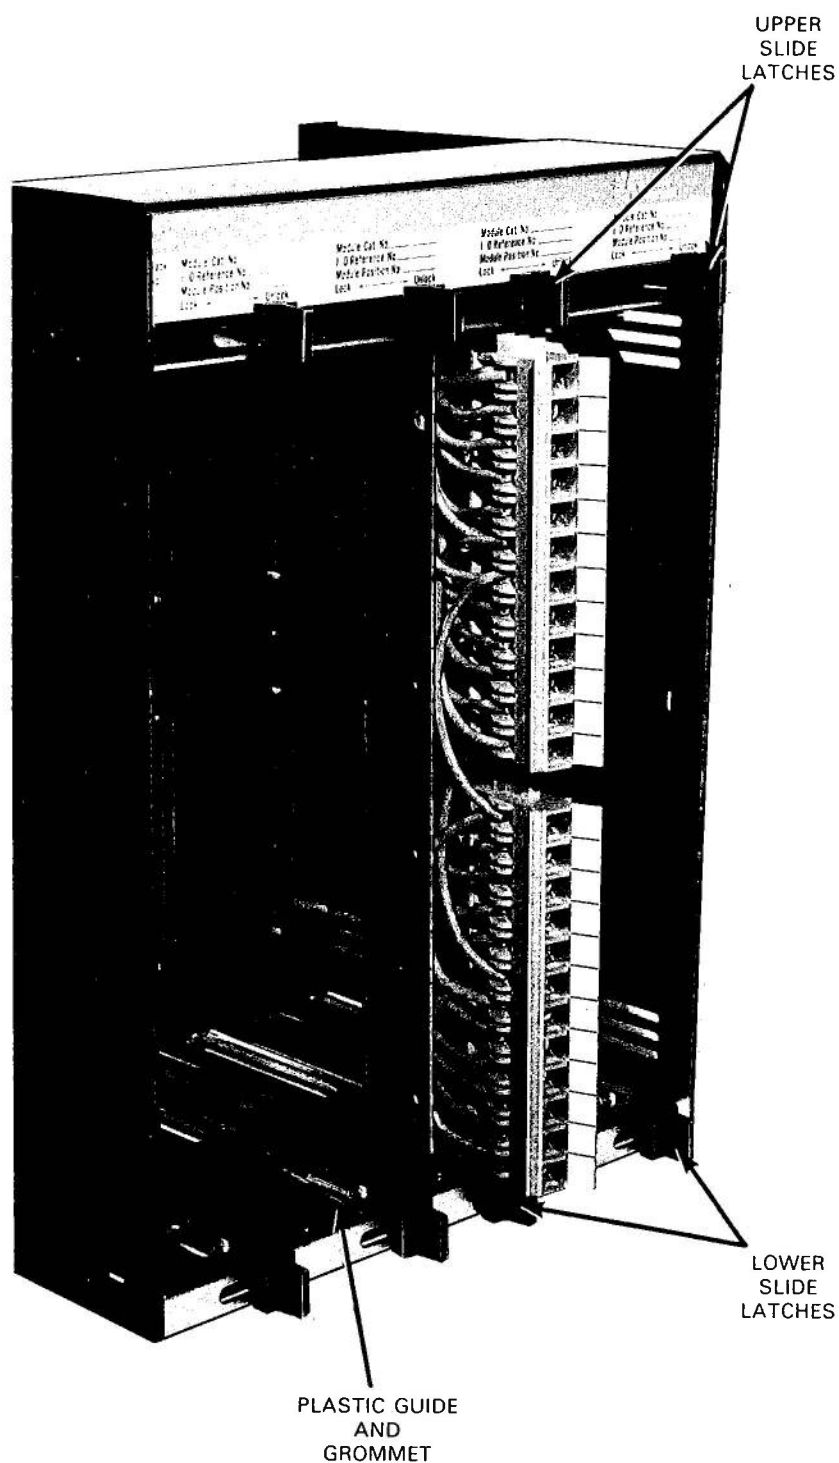
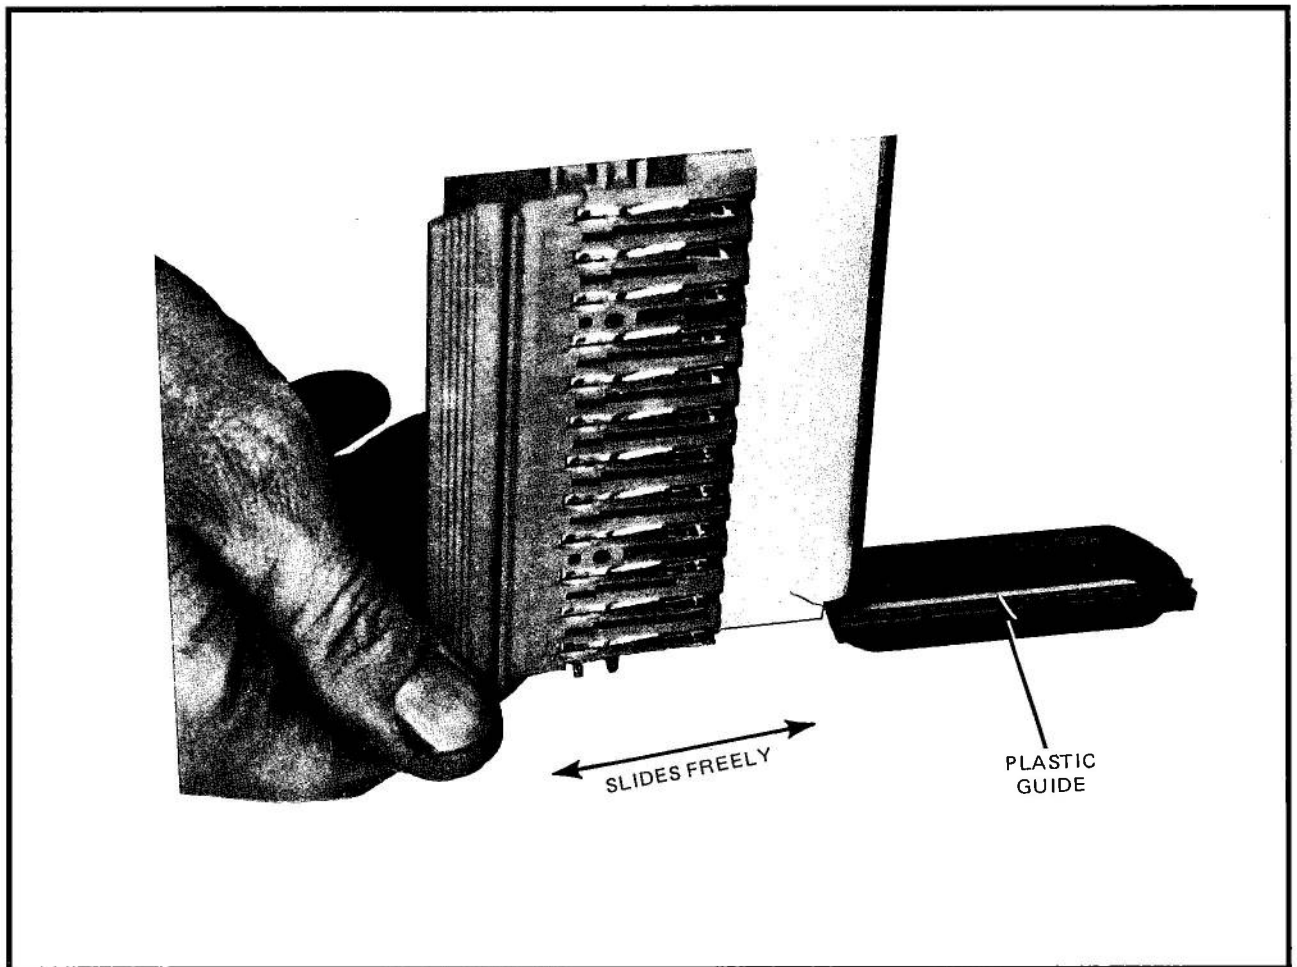

Figure 7-34. Horizontal Rack with Terminal Raceway Assembly Installed
Figure 7-35. Terminal Raceway Assembly Installation
4. Locate each of the terminal raceways to be installed into the rack's plastic guides. Figure 7-27 shows the terminal raceway assembly. Determine each raceway assembly's position in the rack for the system drawings. These raceway assemblies are captive-on-installation. Figure 7-34 shows a raceway assembly installed into a rack.
5. To install the terminal raceway assembly, move the upper and lower slide latches (see Fig. 7-34) of the desired slot to the full-right position (**UNLOCK**). Line up the terminal raceway assembly in front of the desired slot's plastic guide openings. Firmly press the raceway assembly into the guides until it slides freely back and forth. This process is shown in Figure 7-35.
3. Insert this first conductor into the bottom terminal collar and tighten the terminal screw to 15 in.-lb. When two conductors connect to a terminal, insert both conductors before tightening the screw. Lay this first conductor at the rear of the terminal raceway's wire guide. See Figure 7-34.